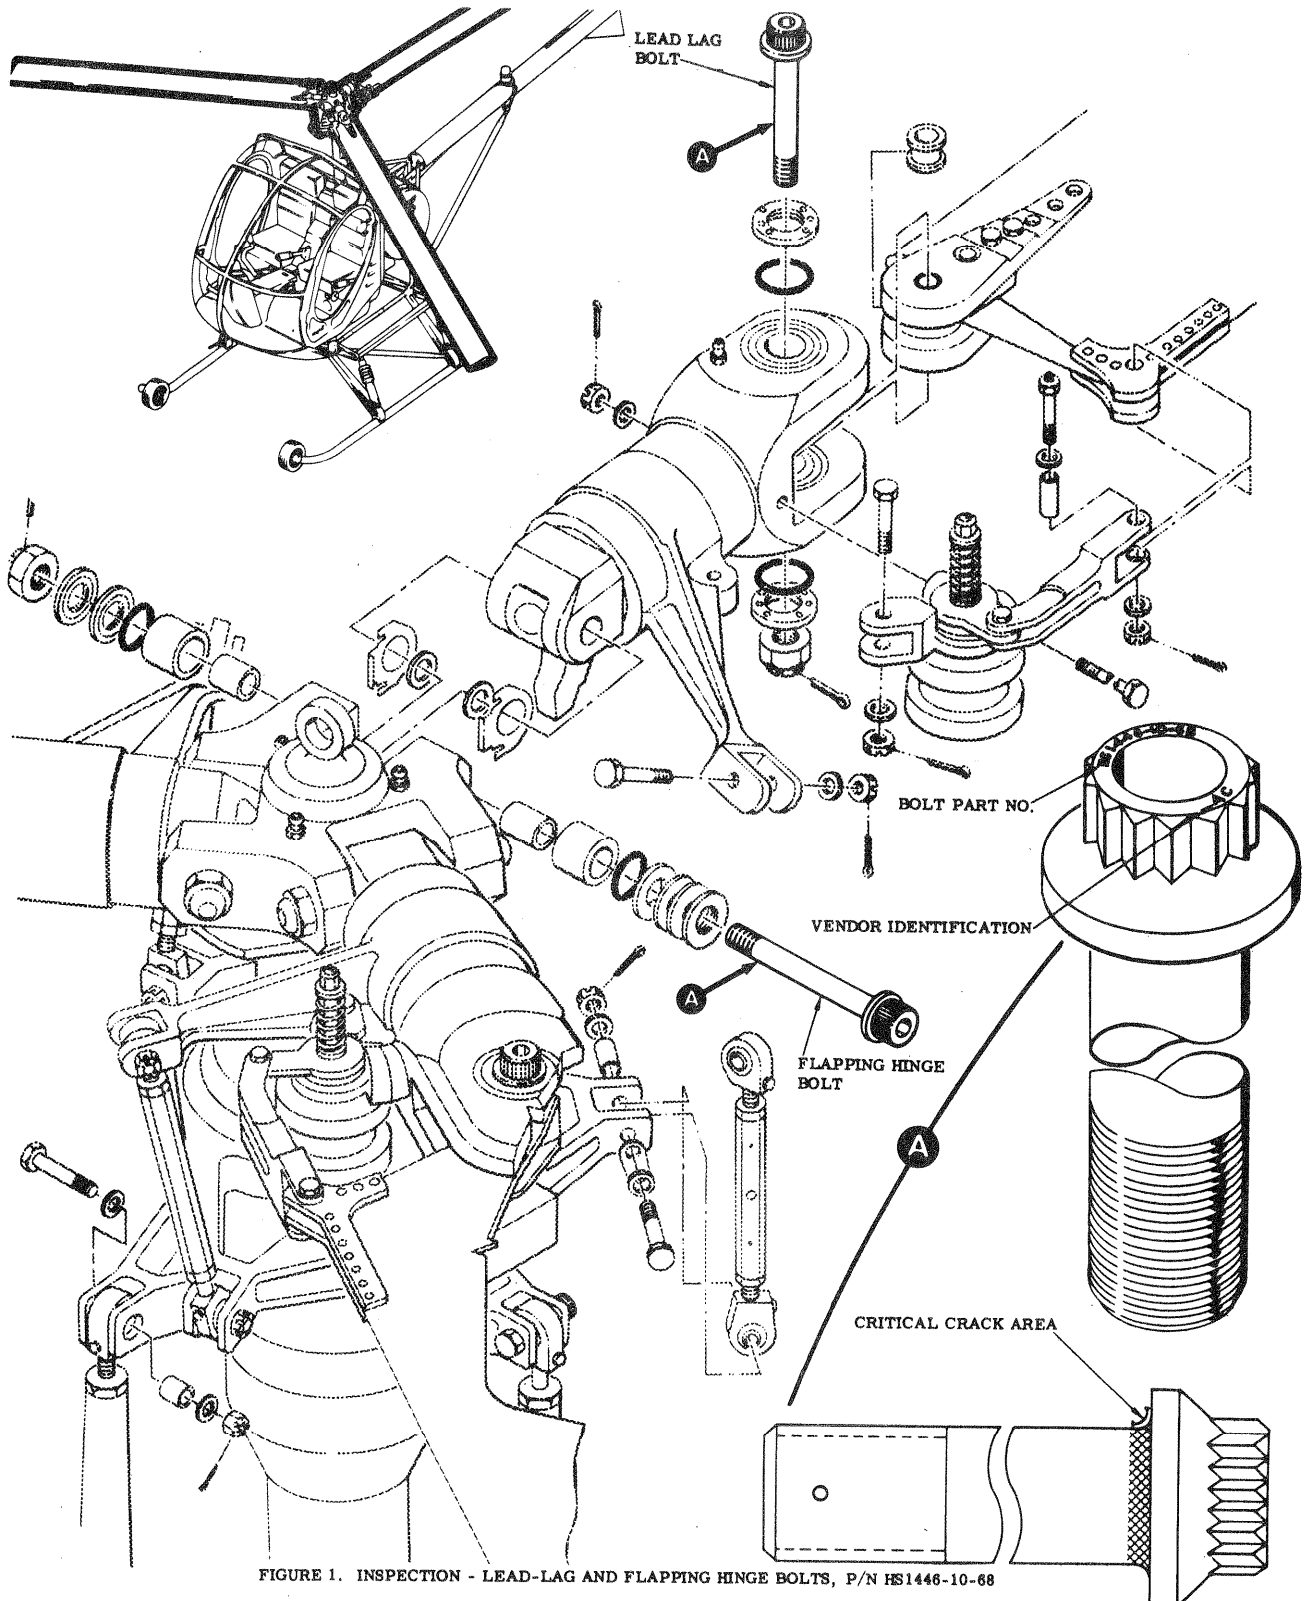

FIGURE 1. INSPECTION - LEAD-LAG AND FLAPPING HINGE BOLTS, P/N HS1446-10-68
a. Visually inspect all P/N HS1446-10-68 bolts installed on helicopter (two bolts on each main rotor pitch bearing assembly), to determine if a vendor identification (AC) is impression-stamped on top of bolt heads. (See Figure 1)
1. Remove and dye penetrant inspect or magnaflux inspect all (AC) bolts for evidence of cracking. Pay particular attention to area of bolt shank at radius of bolt head. (See Figure 1)
3. At each 200 \pm 25 hours of helicopter operation, remove and dye penetrant inspect or magnaflux inspect all (AC) bolts, per step 1. above.